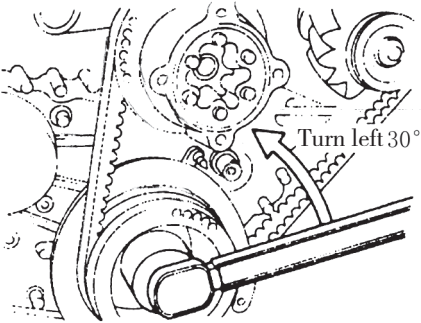

Fig. 1.15
(2) Place the first cylinder at the dead point position of compression stroke and turn the crankshaft about 30 ° from this position. See Fig. 1.15.